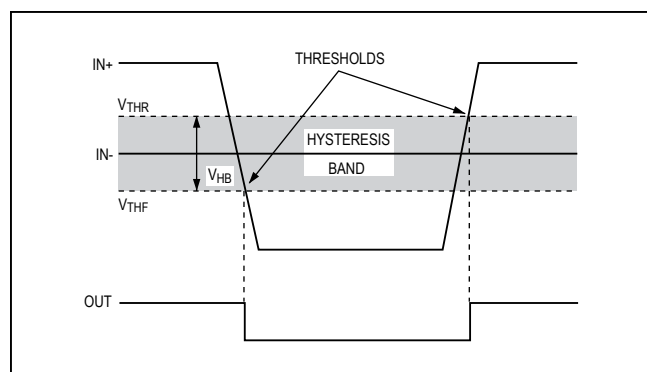

Figure 2. Threshold Hysteresis Band
**Note 1:** All specifications are 100% tested at TA = +25°C. Specification limits over temperature (TA = TMIN to TMAX) are guaranteed by design, not production tested.**Note 2:** VOS is defined as the center of the hysteresis band at the input.**Note 3:** The hysteresis-related trip points are defined as the edges of the hysteresis band, measured with respect to the center of the band (i.e., VOS) (Figure 2).**Note 4:** Specified with an input overdrive (VOVERDRIVE) of 100mV, and load capacitance of CL = 15pF. VOVERDRIVE is defined above and beyond the offset voltage and hysteresis of the comparator input. For the MAX9025/MAX9026, reference voltage error should also be added.
The hysteresis in a comparator creates two trip points: one for the rising input voltage ( $V_{THR}$ ) and one for the falling input voltage ( $V_{THF}$ ) (Figure 2). The difference between the trip points is the hysteresis ( $V_{HB}$ ). When the comparator's input voltages are equal, the hysteresis
effectively causes one comparator input to move quickly past the other, thus taking the input out of the region where oscillation occurs. Figure 2 illustrates the case in which IN- has a fixed voltage applied, and IN+ is varied. If the inputs were reversed, the figure would be the same, except with an inverted output.